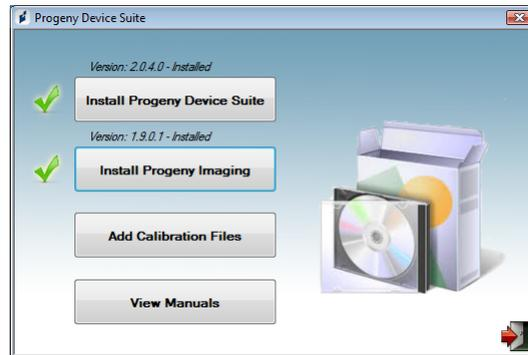

Figure 7: Progeny Device Suite and Progeny Imaging are installed
- Green check marks next to each of the ‘Install Progeny Device Suite’ and ‘Install Progeny Imaging’ buttons will appear when both the Progeny Device Suite and Progeny Imaging are installed (Figure 7).